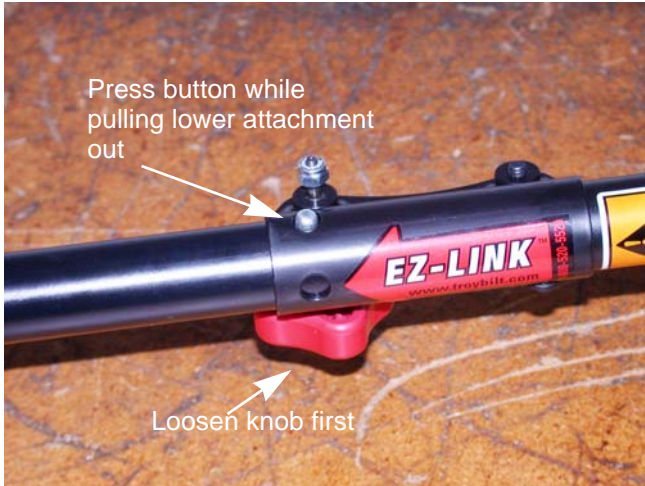

Figure 7.1
2. Press in the metal button while pulling the lower attachment out. See Figure 7.1.